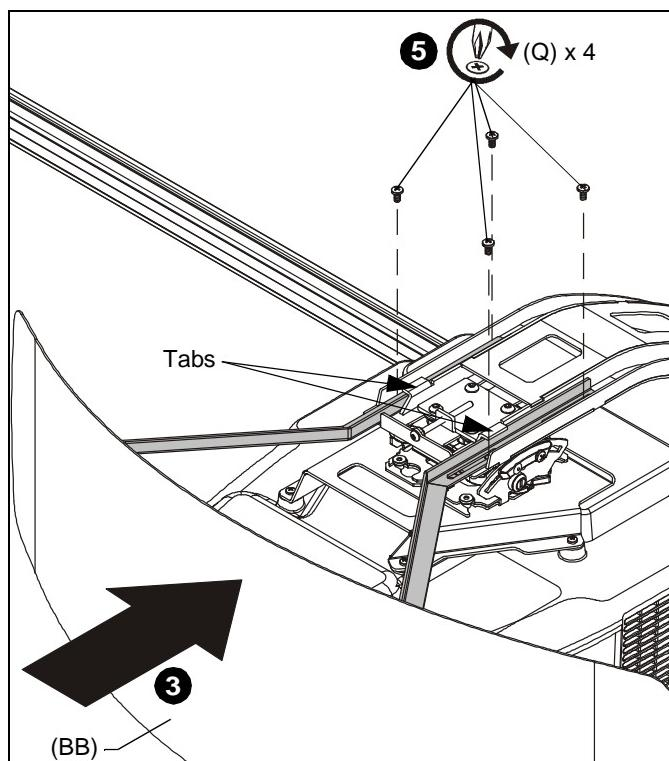

Figure 19
3. Slide the valence (BB) with attached brackets into the boom mount (V), sliding brackets under tabs in boom. (See Figure 19)
5. Fasten through bracket slots into boom mount using four 10-24 x 1/2" Phillips pan head machine screws (Q). (See Figure 19)